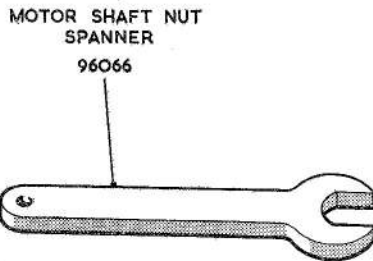
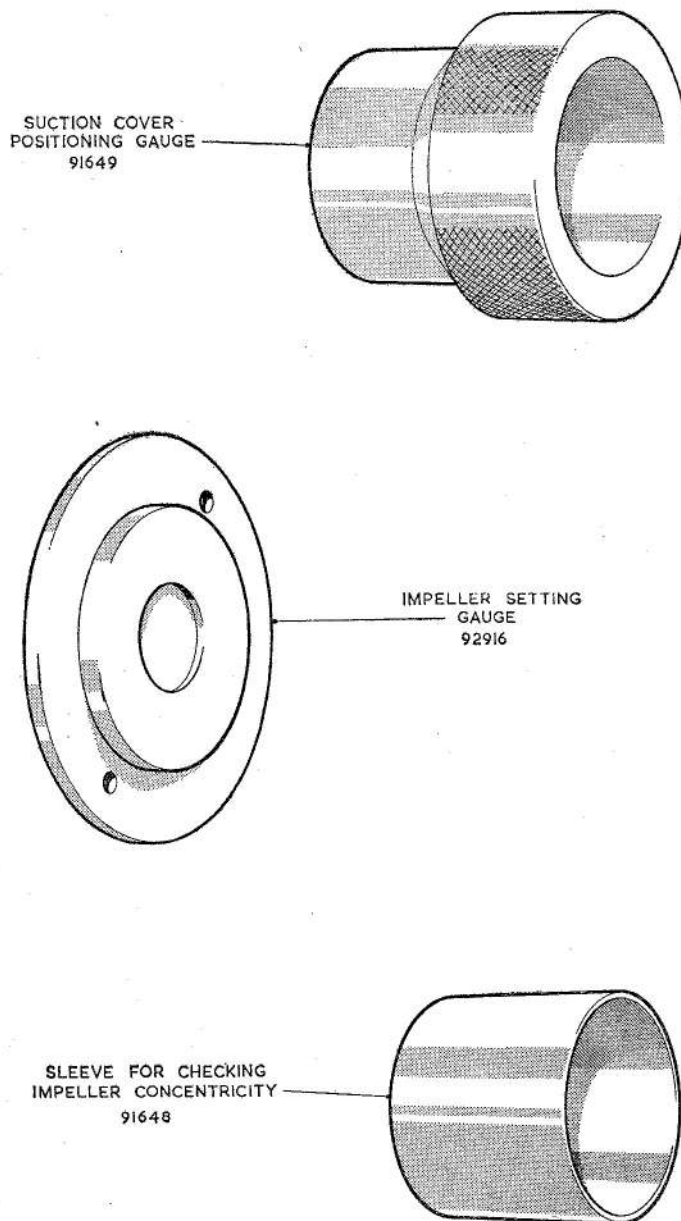

Fig. 6. Motor shaft nut spanner
Fig. 11. Impeller alignment and positioning gauges
(2) Position the bearing already located in the drive-end frame (15) over the armature shaft. Fit the slinger (16), spring washer (14) and shaft nut (13) to the armature shaft. Use the spanner 96066 (fig. 6) to tighten the shaft nut.
(3) Remove the armature from the padded clamp and with the armature supported turn the assembly through 180° and fit the field assembly (25) over the armature, passing the untagged coil leads through apertures in the end frame. Ensure that the dowel pin (79) is correctly located in the end frame slot.
(6) When a non-shielded bearing (76) is fitted in the commutator-end frame (33) fit a grease shield (77) with the dished side towards the bearing.
(7) Fit spacing washers (43) as required to ensure that the fan (35) is clear of the commutator-end frame. Refit the fan peg (44), fan (35), tab-washer (42) and fan-nut (41). Hold the motor shaft by using spanner 96066 (fig. 6) on the shaft nut, and tighten the fan nut with a box spanner. Do not bend tabwasher at this stage.
(2) Fit the special gauge 92916 (fig. 11) to the flange of the pump casing.
(3) Slide the impeller into the recessed portion until it contacts the inner face of the setting gauge.
(4) Holding the shaft nut (13, fig. 3) with the spanner 96066 (fig. 6), tighten the impeller nut (12, fig. 2) with the spanner 96121 (fig. 4), ensuring that the end of the impeller remains in contact with the face of the gauge.
(5) Remove the gauge.
(6) Fit the sleeve 91648 (fig. 11) over the impeller blades and check concentricity by using a dial gauge on the sleeve and rotating the shaft by hand. Total eccentricity must not be more than 0.004 in. total indicator reading. If necessary, try different angular position of the impeller relative to the shaft pin until an acceptable position is
found. Always use the gauge (fig. 11) when setting the impeller.
(2) Fit a new joint washer (7) and secure the suction cover loosely to the pump casing with six fibre joint washers (9) and cap nuts (8).
(3) Insert the setting gauge 91649 (fig. 11) in the suction cover bore. Tighten the cap nuts evenly in turn, ensuring that the gauge is free to turn, during tightening, with the impeller in several different positions.
(4) Wire lock and seal the cap nuts.